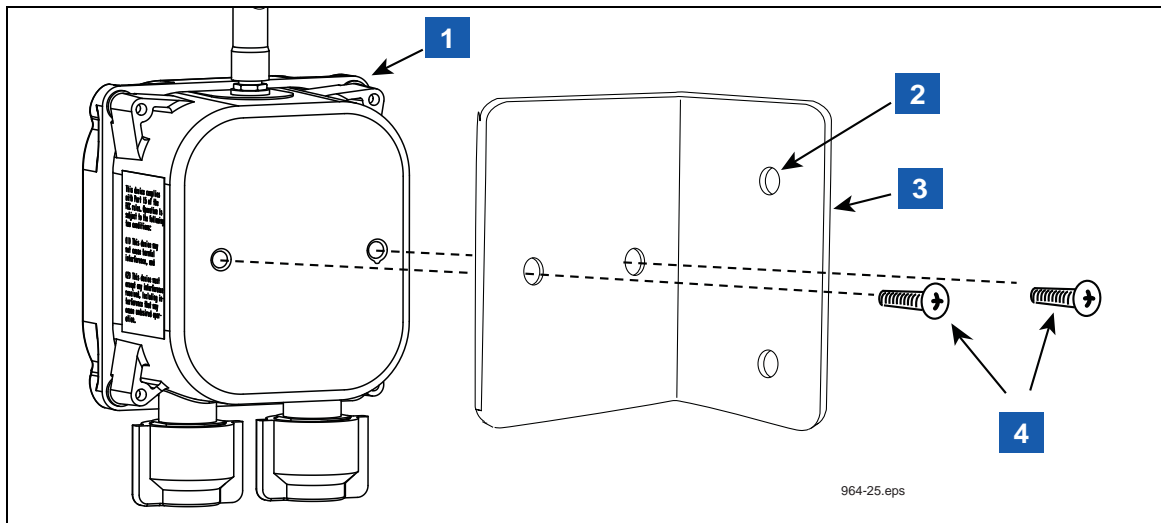

Figure 19. Attaching Mounting Bracket To Receiver Or Repeater
1. One Receiver is required per site and it is mounted in the vertical position (antenna up) on the outer wall of the same building housing the TLS RF. The Receiver is attached to its mounting bracket with #10 x 1/2" taptite screws from its install kit (see Figure 19). The L-bracket is then mounted on the outer wall of the building using appropriate fasteners (customer supplied). If the Receiver will be exposed to the weather, attach the L-bracket to the mounting surface inside a weatherproof enclosure. This enclosure is not required when mounting the Receiver under a roof overhang and shielded from the weather.
LEGEND FOR NUMBERED BOXES IN Figure 19
2. The Repeater is attached to its mounting bracket with #10 x 1/2" taptite screws from its install kit (ref. Figure 19 on page 30). The L-bracket is then attached to the outer wall of the building using appropriate fasteners (customer supplied). If the Repeater will be exposed to the weather, attach the L-bracket to the mounting surface inside a weatherproof enclosure. This enclosure is not required when mounting the Repeater under a roof overhang and shielded from the weather.